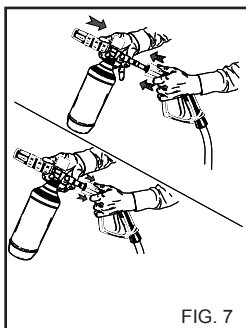

FIG. 7
2) Detach the extension from the handgrip and fit the detergent spray kit (fig. 7), operate the high pressure washer and spray the surface to be washed, working from the bottom upwards.